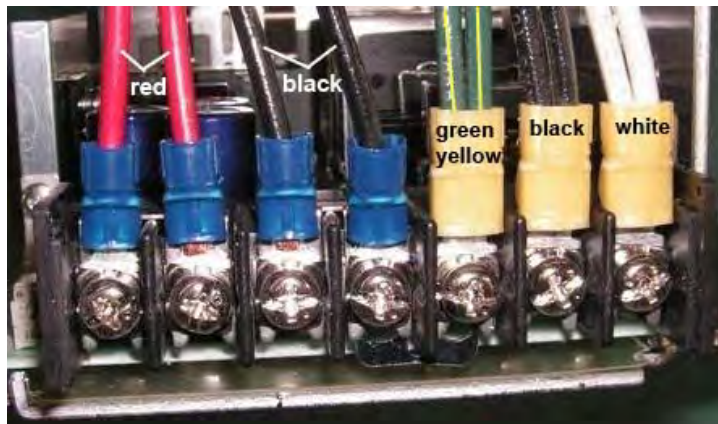

Figure 26: Single-unit Power Supply
Power supplies may be installed as single or double units depending on the pixel matrix size of the display. A double unit consists of two single units connected together. The wiring for a single unit power supply is shown in **Figure 26**.
7. Reattach the wires to the power supply as shown in **Figure 26**.